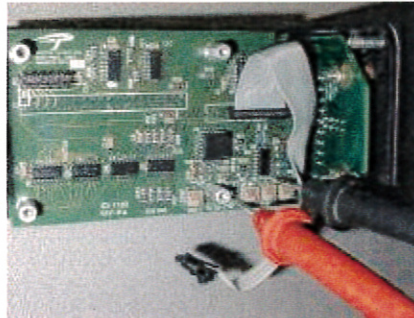

Figure 4 - Adjusting the R7 Variable Resistor
4. Adjusting **R7** for Elevator Nose Up indication. To adjust, set the Multimeter to read resistance, and place the probes on TP7 and TP7-1 as shown in Figure 4, and adjust the variable resistor.